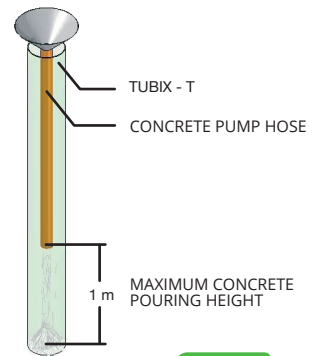

FIG. 2
9. In case of formworks higher than 3m it is absolutely necessary to use a concrete pump hose to be inserted in the formwork. This is to avoid the separation phenomena of the aggregates (SEE FIG.2);